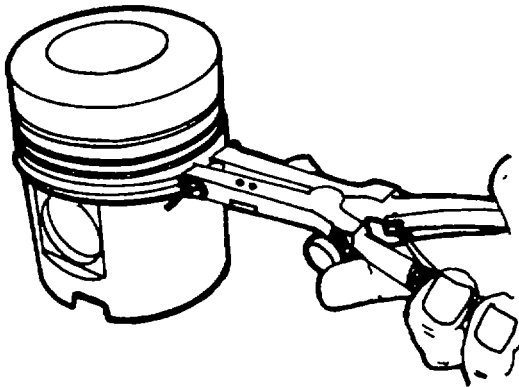

Figure 4-24. Removing Piston Rings
- c. Remove the compression rings and oil control ring using piston ring expander No. 003-0496 (figure 4-24). Inspect the ring lands for damage or wear.